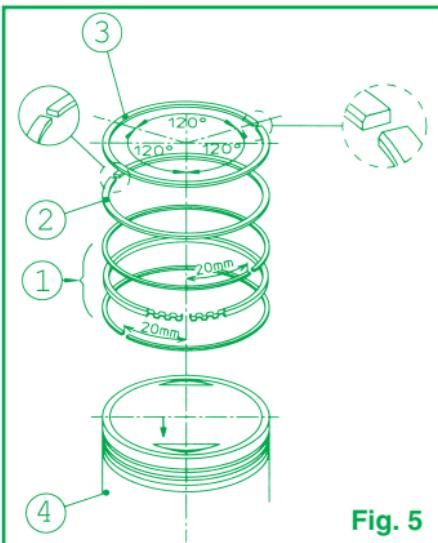

Fig. 5
- Fit the scraper ring expander in the special piston groove, then complete the scraper ring assembly by fitting first the lower and then the upper scraper ring (Fig. 5 - Part. 1).
- Fit the second piston ring with the printing turned towards the piston upper part as indicated in Fig.5 - Part 2.
- Fit the first compression piston ring with the printing turned towards the piston upper part as indicated in Fig. 5 - Part 3.
- Position the piston ring openings as shown in Fig. 5.
- Recheck that the piston rings openings are positioned as shown in Fig. 5.